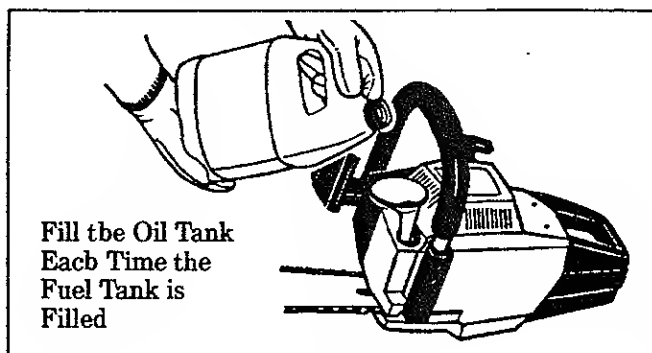

Figure 10
- Turn saw on its side with oil cap up. Figure 10.